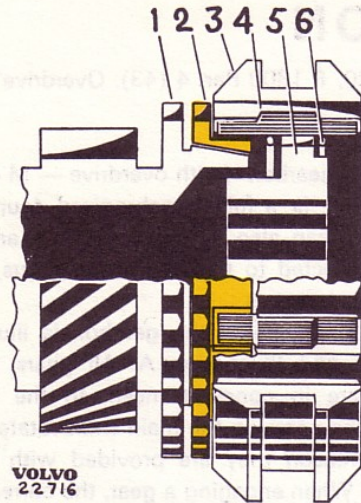
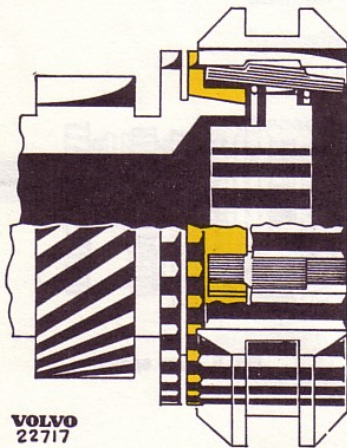
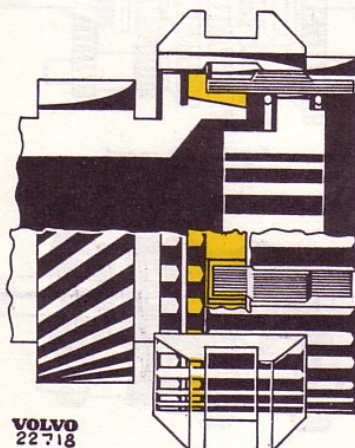

Fig. 8. Neutral position
Fig. 9. Synchronizing
Fig. 10. Gear engaged
The design and function of the synchronizing mechanism is shown in Figs. 8—10. When a gear is engaged, the gear selector fork presses the engaging sleeve (3, Fig. 8) towards the corresponding gear wheel. The guides (4) then press the synchronizing cone (2) against the cone on the gear wheel (1). If the synchronizer and gear wheel are rotating at different speeds, the synchronizing cone will turn in relation to the engaging sleeve. However, the synchronizing cone is prevented from turning more than half a tooth width by the guides, see Fig. 9. The teeth on the synchronizing cone have half their width in contact with the teeth on the engaging sleeve and in this way prevent it from engaging. Through the friction between the synchronizing cone on the gear wheel, the gear wheel attains the same speed of rotation as the synchronizer. When they are both rotating at the same speed the engaging sleeve is able to turn back the synchronizing cone and the gear engages, Fig. 10.